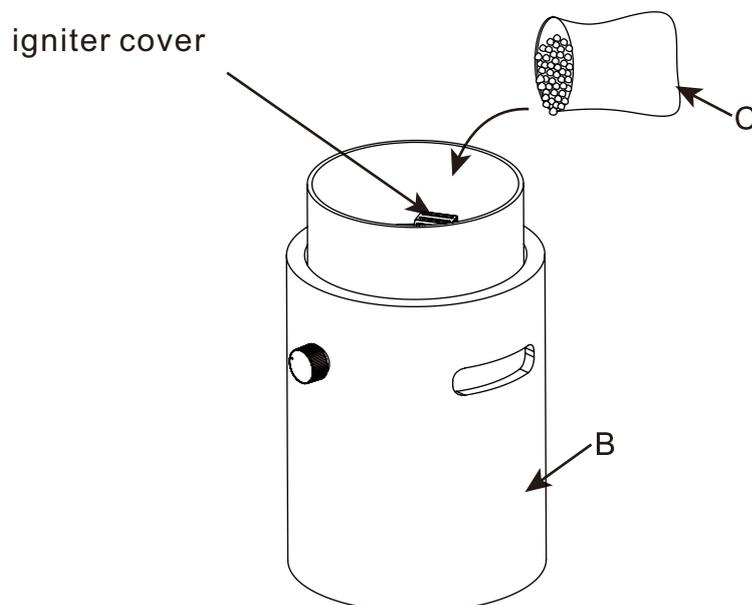

Figure 5
4. Place the lava rocks (C) into the fire pit body (B). Approx. 0.5 kg of lava rocks are required (see Figure 5).